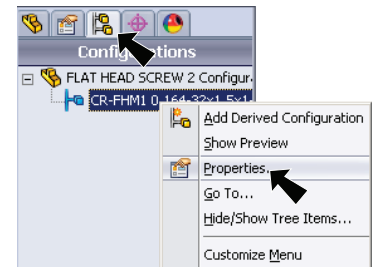

Fig. 12
Step 1. Click **Configuration Manager** tab  at top of the Feature Manager, **Fig. 12**.
Step 2. **Right click** the configuration and click **Properties**, **Fig. 12**.